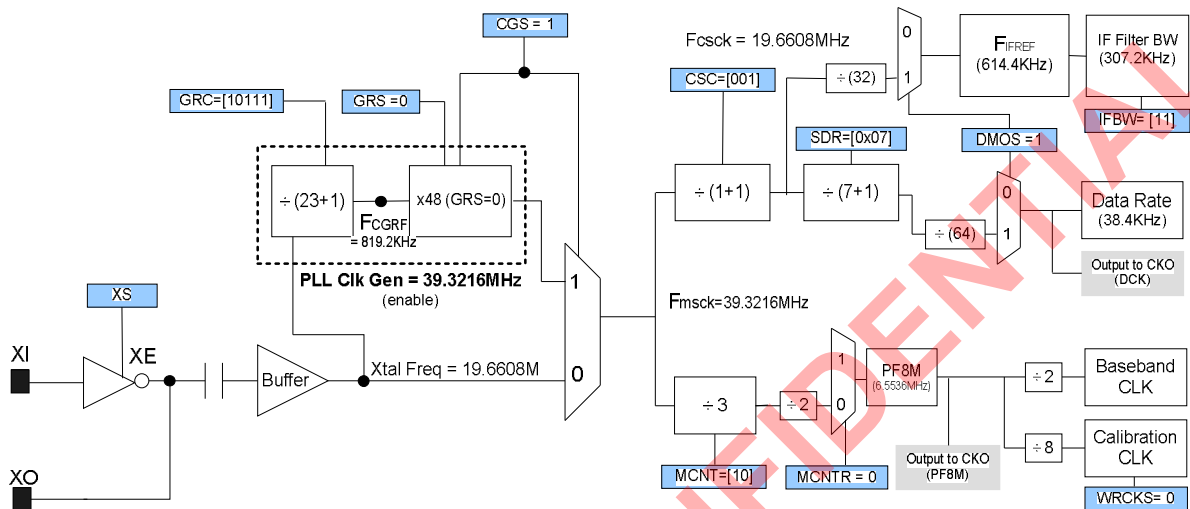

Figure 12.5 Configurations of 38.4Kbps when IFBW = 307.2KHz
5. If choosing IFBW = [11]. IFBW will become 307.2KHz instead of the expected 250KHz because of F_{IFREF} (higher F_{IFREF} results larger IF bandwidth if IF Filter Calibration is successful.). Figure 12.5 illustrates the different results of CSC and FCSCK.